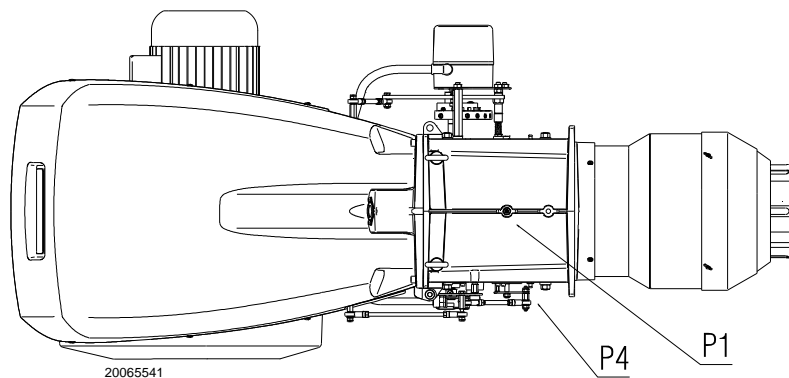

Fig. 22
Gas pressure measured at the test point P1) (Fig. 22), with:
- subtract the combustion chamber pressure from the gas pressure measured at test point P1) (Fig. 22).
$$\begin{aligned} \text{Gas pressure at test point P1)}(\text{Fig. 22}) &= 25.6 \text{ mbar} \\ \text{Pressure in combustion chamber} &= 2 \text{ mbar} \\ 25.6 - 2 &= 23.6 \text{ mbar} \end{aligned}$$
To calculate the required gas pressure at test point P1) (Fig. 22), set the MAX output required from the burner operation:
- read, on the right (column 1), the pressure at the test point P1)(Fig. 22).
Pressure required at test point P1)(Fig. 22).